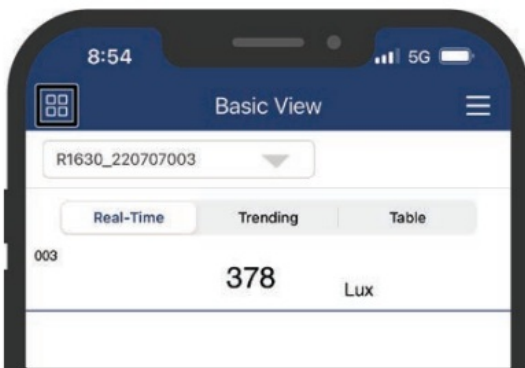

Figure 3
1. Tap on the “Applications Selection Menu” (Figure 3) to switch between Basic View and Volume Flow (Outlet).